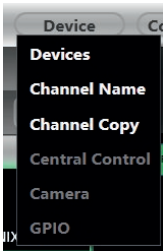

Figure 2.3
6.2.2 Device (As shown in figure 2.3)